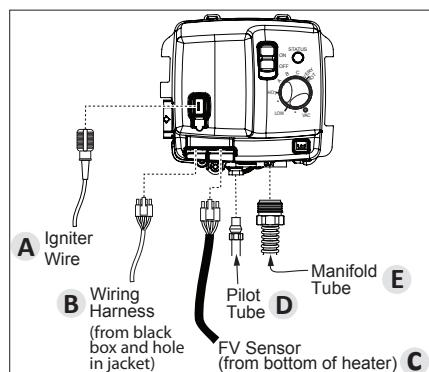

Figure 46 - Gas Control Valve Connections
**6** Reconnect the manifold tubing (3/4" wrench), pilot tubing (7/16" wrench) to the gas control valve/thermostat. Also reconnect the FV sensor wires, wiring harness, and igniter wire (see Figure 46 for the correct position of each connection). Do not cross-thread or apply any thread sealant to the fittings.